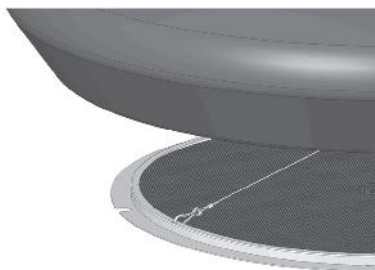

FIG.11
- › Install the grease filter making sure to first install the hooks for the security steel cable (Fig.11).